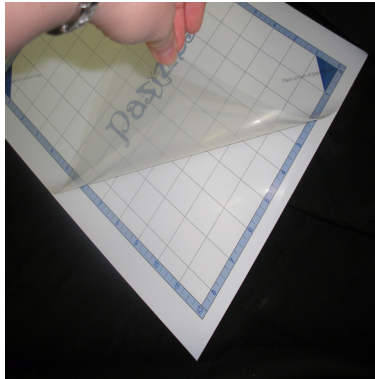

Figure 16
- 1 Please take off the clear cover that came on your mat before putting the paper on the mat. See figure 16